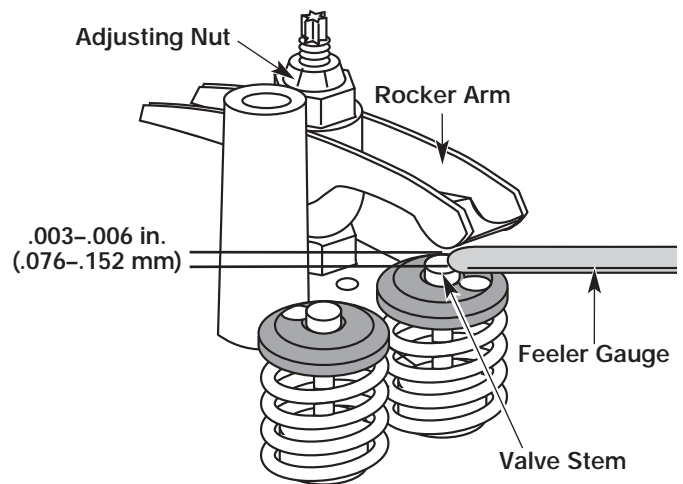

Figure 55
- Turn the adjusting nut using a 5/16 inch (8 mm) wrench or nut driver. See Figure 55.